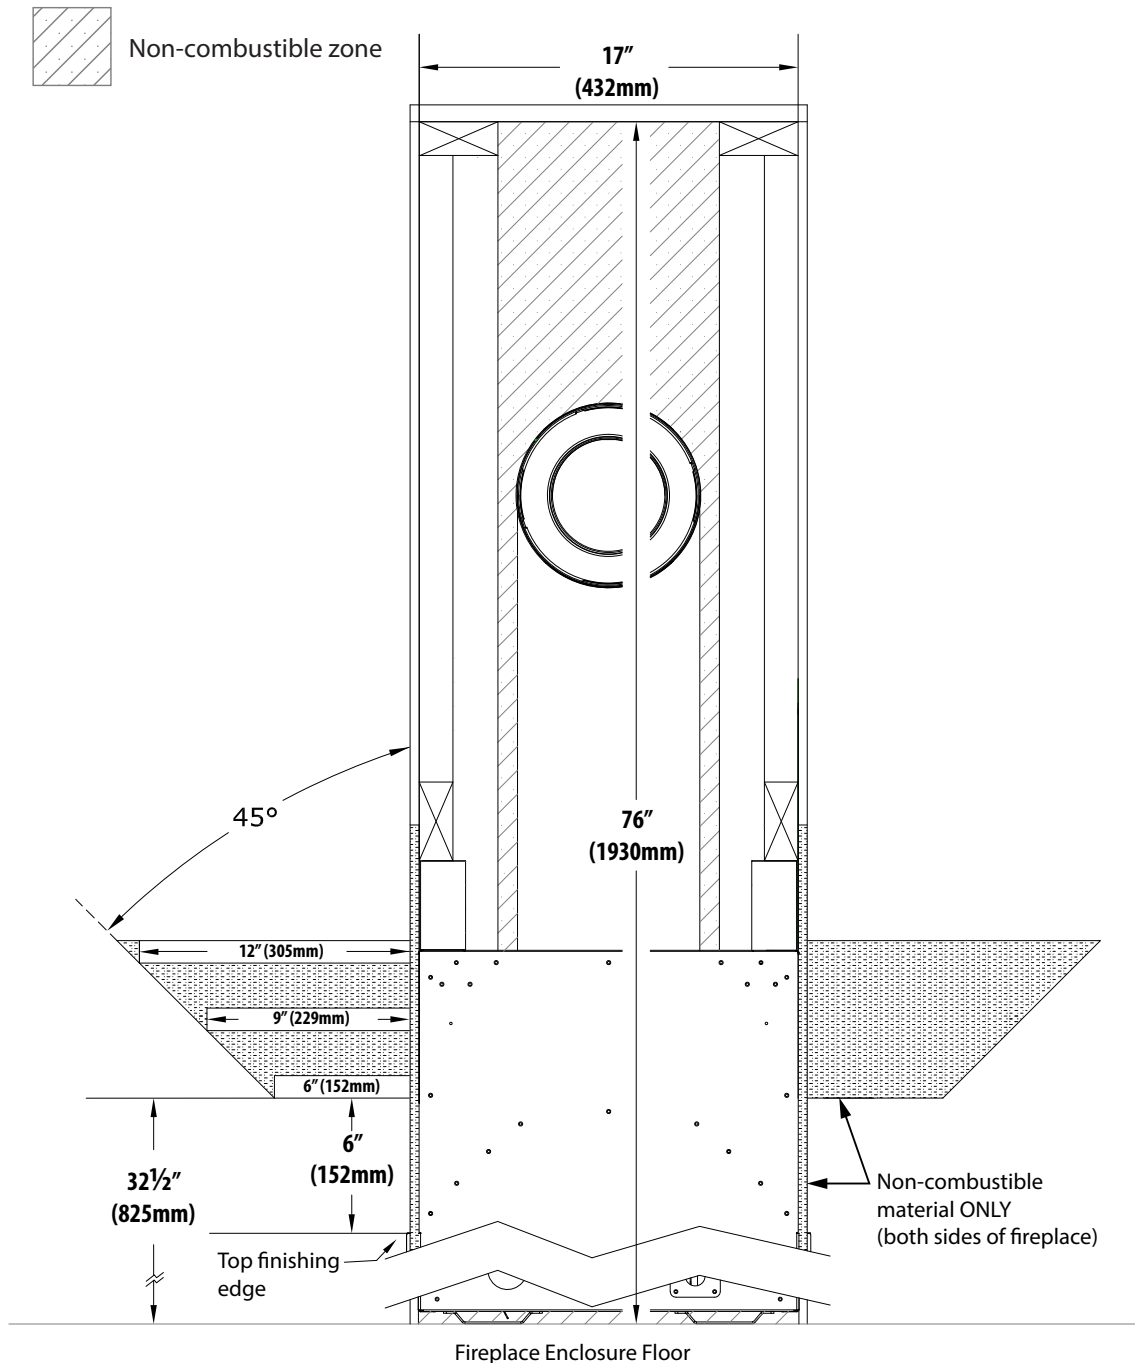

Figure 4.2, Standard Installation Non-Combustible Mantel Clearances - No Surround
- **Non-combustible Mantel Projections:** A minimum vertical clearance of 6" (152mm) above the top finishing edge to a maximum 6" (152mm) depth of a non-combustible mantel. Follow projection 1" (25mm) up for every 1" (25mm) deeper. See Figure 4.2 on page 36.